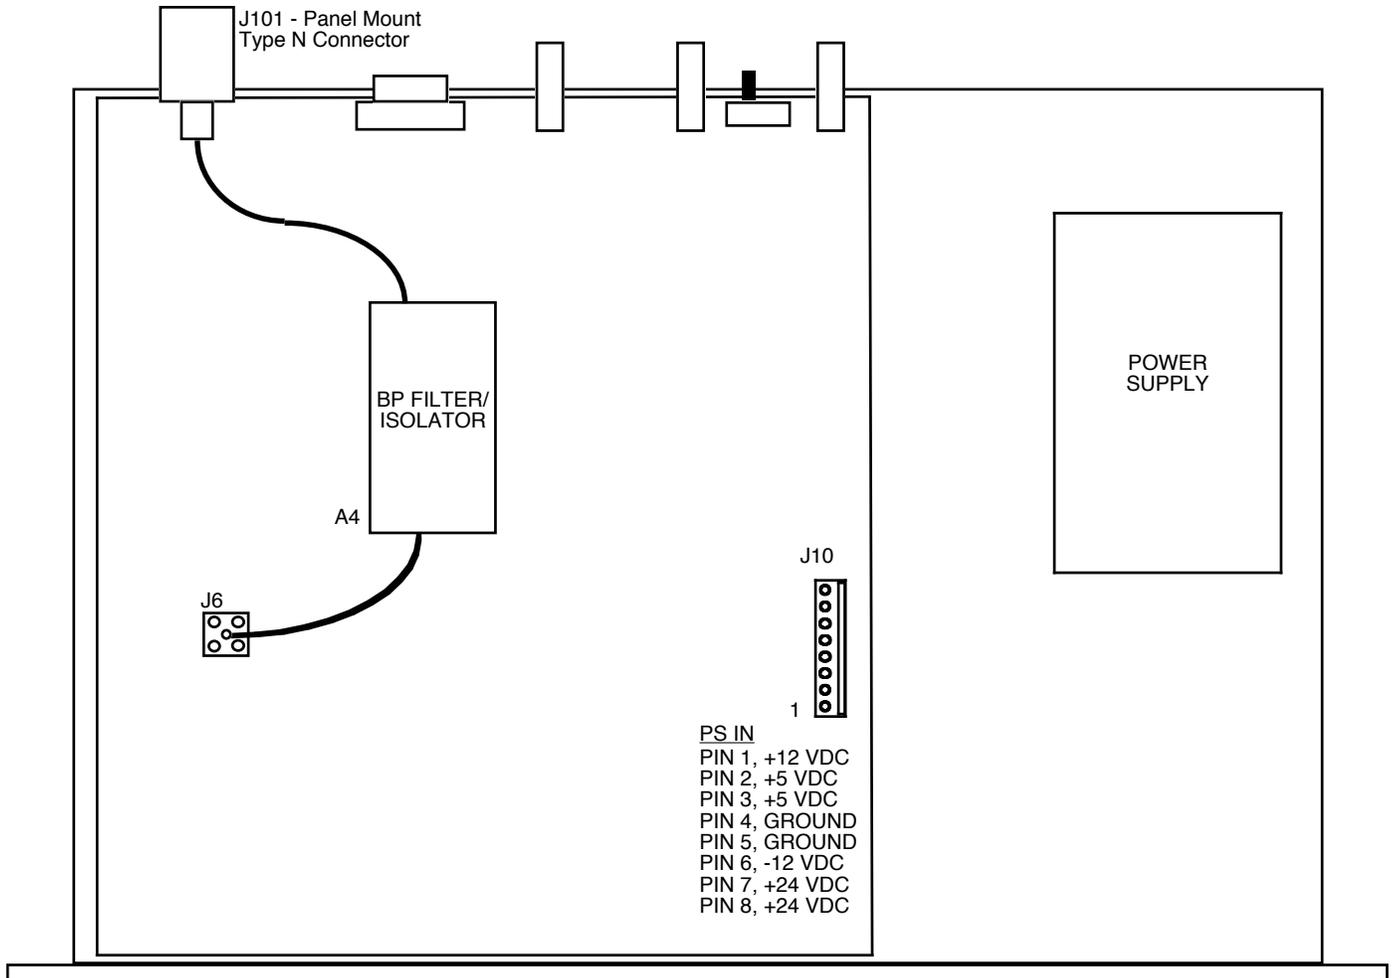

FIGURE 2.0 2116-35 Mechanical Assembly
2.1 Mechanical - The 2116-35 consists of one RF PCB housed in a 1 RU (1 3/4 inch high) by 12 inch deep chassis. A switching, ± 12 , $+24$, $+5$ VDC power supply provides power for the assemblies. The 2116-35 can be secured to a rack using the 4 holes on the front panel. Figure 2.0 shows how the 2116-35 is assembled.